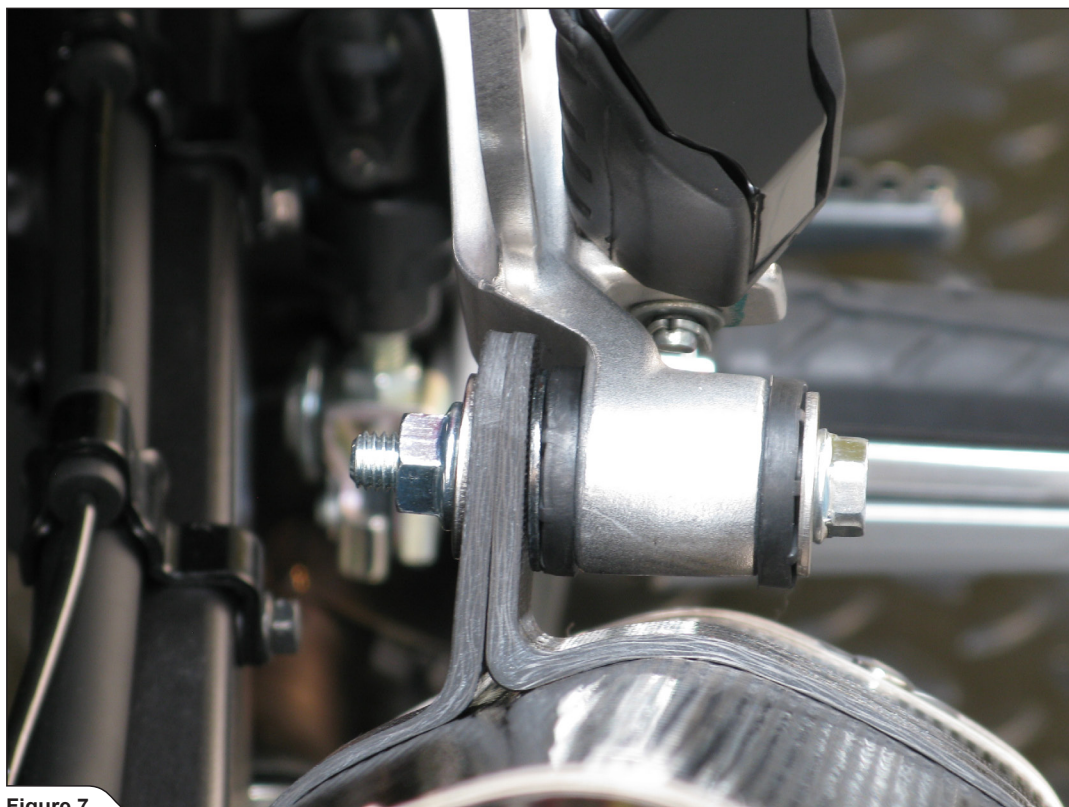

Figure 7
5. **For carbon muffler only:** correctly assemble and hand tighten carbon clamp onto the bracket (using bolt, washers, and nut from Akrapovič installation kit) (**Figure 7**).